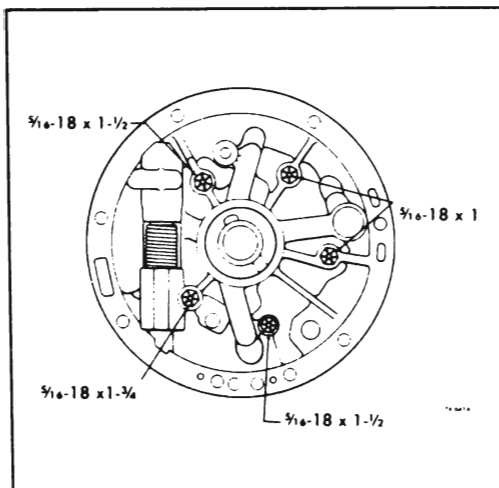

Figure 76-641
10. Install bolts as shown in Figure 76-641.